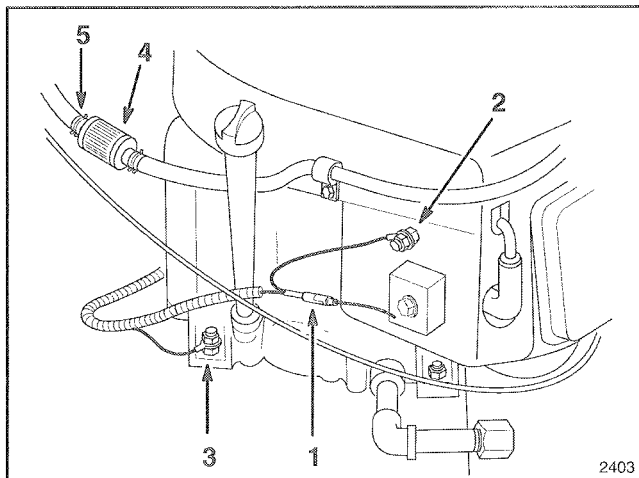

Figure 6
3. Remove cap from fuel filter. Secure fuel line to fuel filter, using the hose clamp. (Fig. 6).
3. Route the other part of the wire harness around to the right side of the engine. Push the red wire connectors together (Fig. 6). Secure the black ground wire with the small O-ring connector to the terminal on the engine, using the #8 nut (Fig. 6). Also secure the other black ground wire with the large O-ring connector to the engine mount, using the 5/16" nut (Fig. 6).